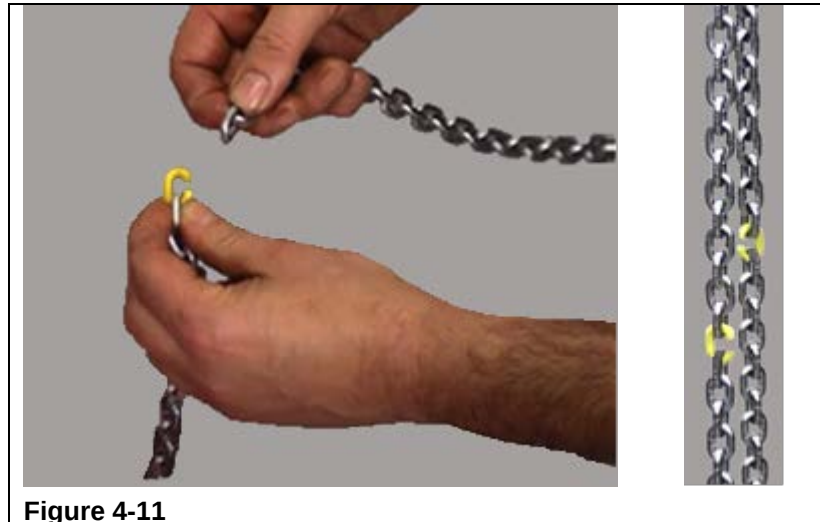

Figure 4-11
Step 14. Connect both of the old chains together with the both of new chains by using both of the yellow chain interface links. (Refer to Figure 4-11)